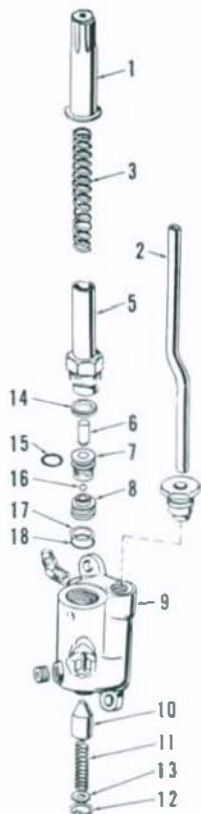
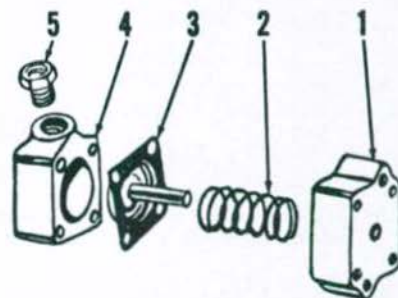

Fig. 196—Exploded view of pressure control valve.
Fig. 197—Exploded view of pressure control diaphragm.
210. PRESSURE CONTROL VALVE AND DIAPHRAGM. The pressure control valve shown exploded in Fig. 196 serves the dual purpose of providing pressure relief for the main hydraulic pump during normal operation and providing weight transfer for added traction when using some types of pulled or mounted implements.
The servo piston (7) and matched sleeve (8) connect the control diaphragm assembly (Fig. 197) to control passage of pressure valve. When servo piston is against stop pin in valve body (9—Fig. 196) the diaphragm passage is open to open to reservoir. As pressure builds up in lift cylinder circuit and piston (7) moves upward against spring pressure,
Relief valve (10) is preset at a slightly higher pressure than diaphragm return spring (2—Fig. 197). The valve provides a safety relief passage if diaphragm plunger malfunctions or system is improperly adjusted.
To disassemble the pressure control valve, refer to Fig. 196 and proceed as follows: Withdraw adjusting tube (1) and spring (3), then unscrew and remove pilot (5). Using needlenose pliers, carefully withdraw guide (7). Remove piston seat (8) using a hooked wire. Relief valve (10) and spring (11) can be removed after removing snap ring (12).